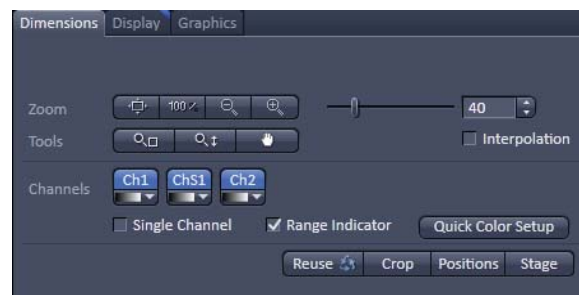

Fig. 23 View Dimensions Control Tab
- In the **View – Dimensions** View Option Control Tab, activate the **Range indicator** check box (Fig. 23).